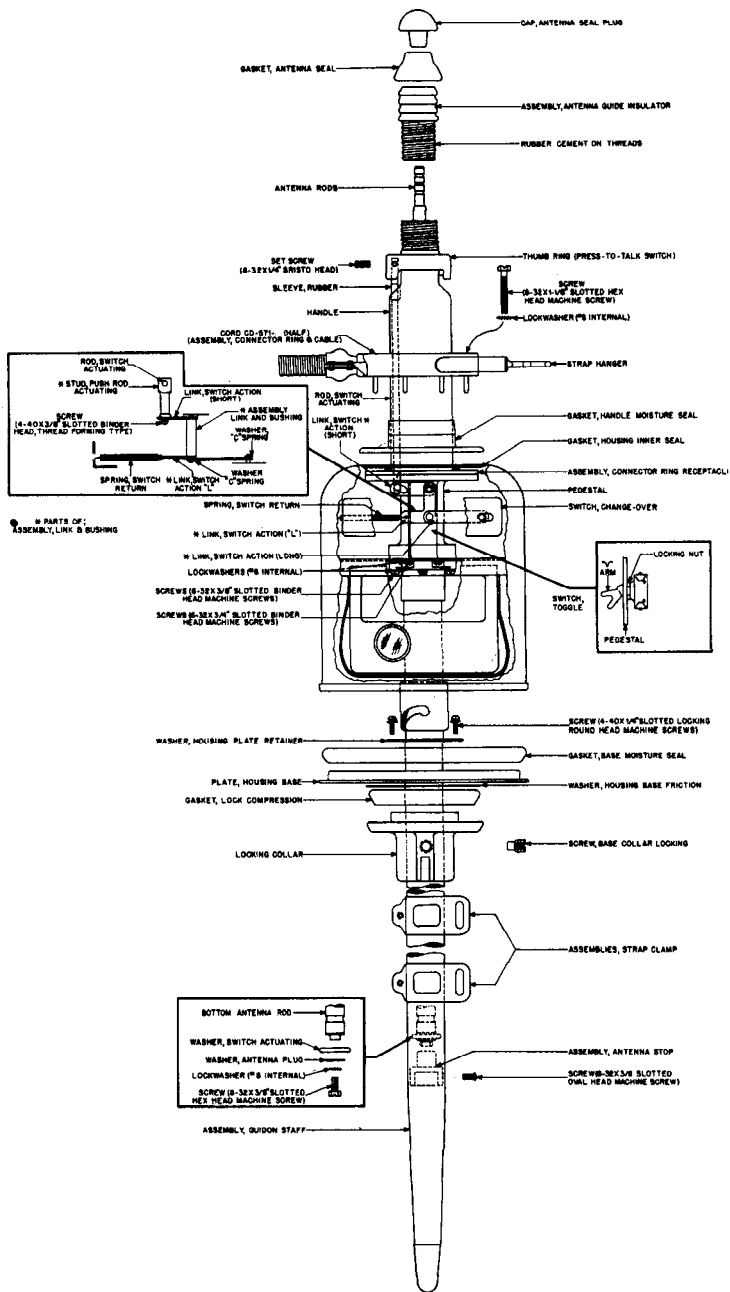

Figure 17. Radio Receiver and Transmitter BC-745-(\*), Assembly Instruction Detail
Lift the ring out of its receptacle, and slide it up over the antenna (Figure 17).
(1) Unsolder all the leads.
(2) Remove the C spring washer from the switch actuating stud and take off the switch action link (long). (Figure 17)
(3) Remove the four screws and lockwashers holding the change-over switch and switch-protecting insulator strip to the mounting brackets.
(4) Place new change-over switch in position and replace switch-protecting insulating strip.
- (5) Replace the four screws and lockwashers.
- (6) Wire and solder all leads to their proper terminals.
(1) Remove the four screws and lockwashers holding the connector ring to the housing. Lift the ring out of its receptacle. Do not remove moisture-seal gasket of the handle.
(2) Place the new cord in position as shown in Figure 17, being careful that the ring is in the proper position. Be guided by the embossed line on the moisture-seal gasket of the handle, the ring, and slot in the top of the housing. They should all line up. Push the ring down firmly, place the four screws and lockwashers in position and tighten.
(1) Remove the antenna seal-plug-cap from the top of the antenna. This cap is cemented to the antenna and be careful when removing, not to damage the cap. (Figure 17)
(2) Remove the bottom cover of Radio Receiver and Transmitter BC-745-(\*). (See Paragraph 10 *a*).
(3) Remove the four screws and lockwashers at the upper end of the guidon staff assembly which holds this assembly to the chassis base.
(4) Remove the guidon staff assembly.
(5) Remove the screw, lockwasher, flat washer, and bakelite washer from bottom of the antenna. (Figure 17)
(6) Extend the antenna to its full length and carefully pull it out of the set.
(7) Feed the new antenna assembly in through the bottom of the chassis.
(8) Replace the guidon staff assembly, being careful that the cutout in the staff clears the power switch.
(9) Put the four mounting screws and lockwasher in position and tighten.
(10) Apply a small amount of rubber cement to the tip of the antenna and allow to dry until cement becomes sticky.
(11) Push the rubber antenna seal-plug-cap on the antenna, and wipe off the excess cement. Allow time for the cement to dry before trying to pull the antenna out by the cap.